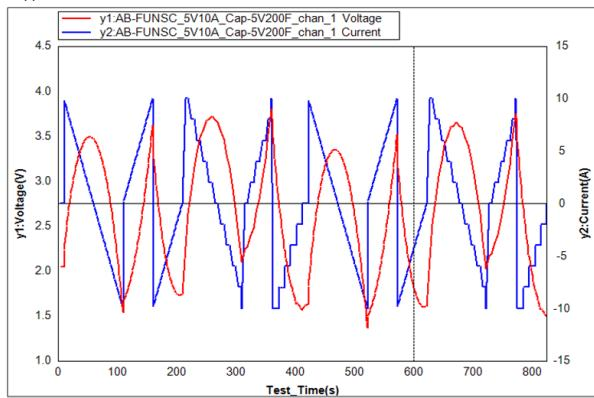

Figure 2-8 Function Test Current and Voltage Diagram, AB-FUNSC
4. The test result data should be similar to Figure 2-8 below, although different systems will have different values. If the data differs from this graph, please save a copy of the graph and contact Arbin Customer Support.